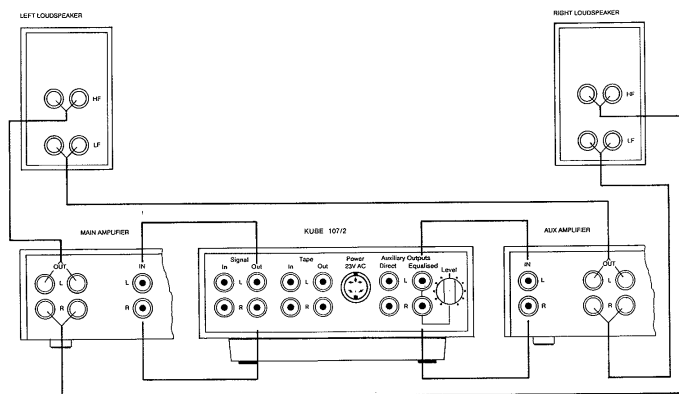

Figure 5 Recommended Connections for Bi-Amplification
3.2.2 Bi-Amplifier Operation (see Figure 5)